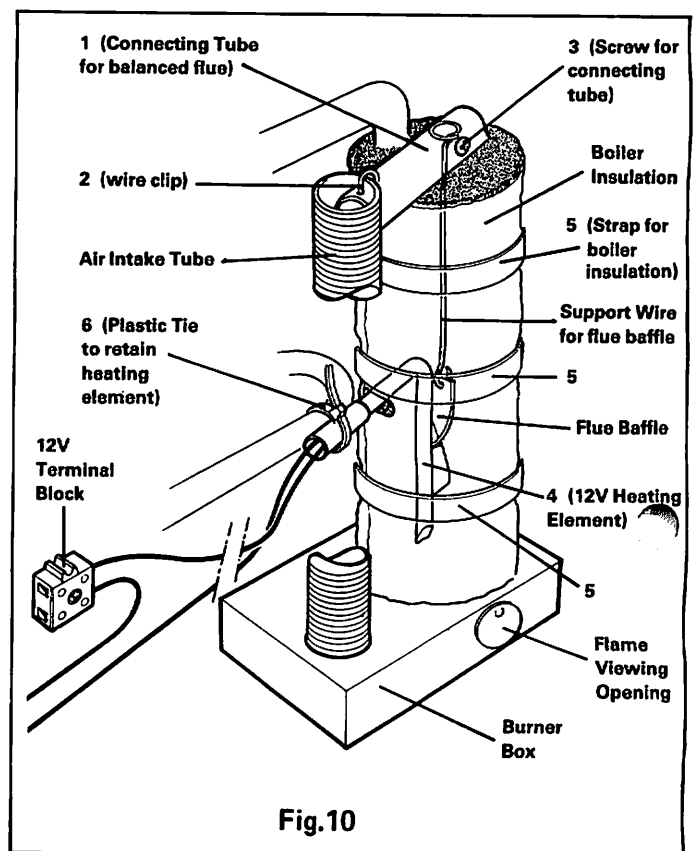

Fig.10
The heating element which operates the cooling unit when the refrigerator is connected to the 12V battery of the vehicle is rated at 95 Watts. It has a continuous current rating of 8 Amps therefore the wiring from the battery to the refrigerator toggle switch, and to the terminal block on the rear of the refrigerator (fig.10) must be of heavy enough gauge to carry this load satisfactorily without undue voltage drop. To ensure this, the minimum size of wire to be used is 14 A.W.G.
3. Remove the screw (3, fig.10) from the horizontal tube at the top of the flue.
4. Remove the wire clip (2) from the top of the flexible air intake tube, by pulling it upwards.
5. Take off the horizontal tube from the top of the flue then lift out the baffle support wire together with the flue baffle attached to it (fig.10).
A stainless steel baffle (fig.10) is located in the flue tube of the boiler of the cooling unit to correctly distribute heat from the burner. The baffle is suspended on a length of stainless steel wire from the top of the flue tube, and is positioned so that the bottom edge of the baffle is 2 3/4" (70mm) above the bottom of the flue tube.
To gain access to the flue baffle, the horizontal (metal) connecting tube (1, fig.10) at the top of the balanced flue must be taken off. The baffle support wire will then be seen and this can be lifted upwards, out of the flue tube, together with the baffle.
If there is no circuit when the refrigerator is connected to the 12V supply, first check that the fuse (fitted during installation) is intact and that current is available to the terminal block on the rear of the refrigerator (fig.10). If the fuse has blown, examine the supply wiring, cut-out relay, etc. (if fitted) and repair any fault before fitting a new fuse and re-connecting.
Remove the faulty heater and fit the new one as follows (see Fig.10).
1. Undo the boiler insulation retaining straps (5, Fig.10) and disconnect the heater leads from the terminal block and switch.
2. Remove the plastic tie (6), then separate the insulation halves sufficiently to enable the faulty heater to be removed from the metal pocket on the boiler.
4. Ensuring the boiler insulation is correctly positioned, secure it firmly with the retaining straps (5).
5. Replace the plastic tie (6), or fit a new one. *This is important to prevent the heater rising out of the boiler pocket due to vibration when the vehicle is in motion.*
6. Connect the heater leads to the terminal block and switch as before and re-install the refrigerator. Check for gas leaks in accordance with item 9 and test the refrigerator for satisfactory operation.